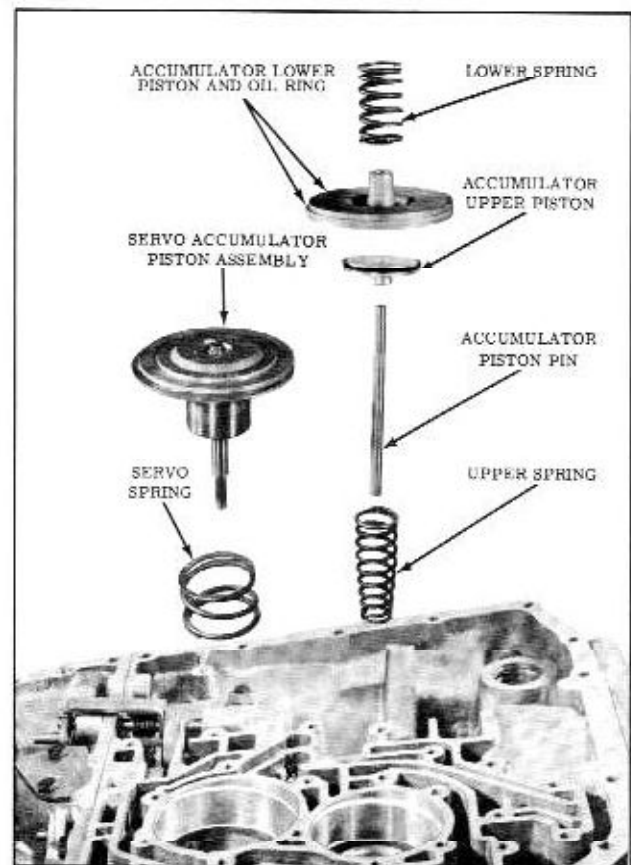

Fig. 3-30 Servo and Accumulator Pistons
16. Remove the servo and accumulator pistons and springs as shown in Fig. 3-30.